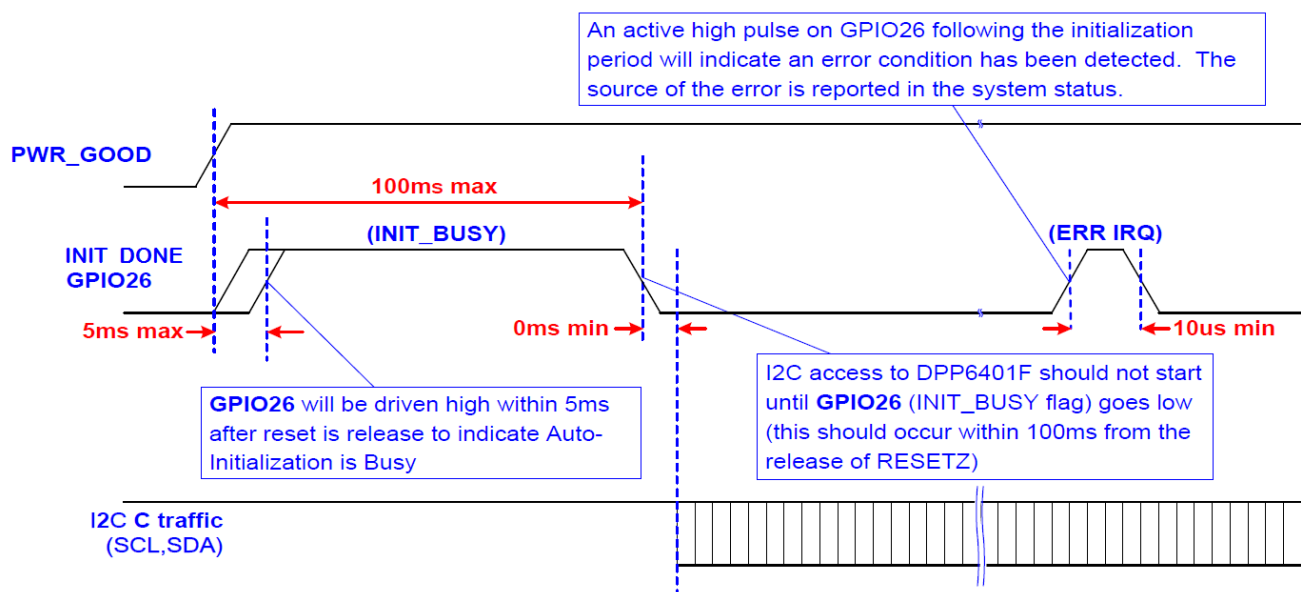

Figure 25. Internal Memory Test Diagram
- After the clocks are configured, an Internal Memory Test is performed. See Figure 25 and note that GPIO26 is the INIT_DONE signal.